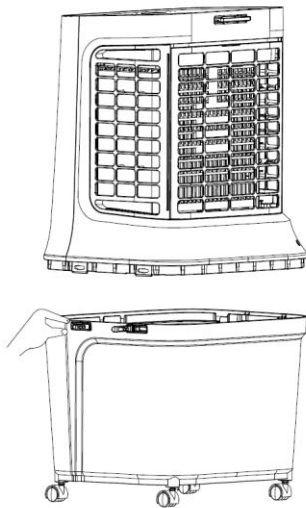
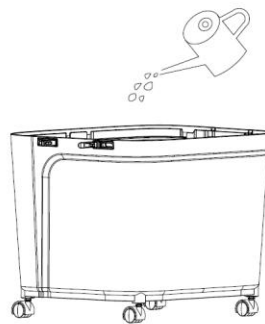

Figure 3
Figure 4
(2) Before adding water, open the 4 water tank buckles to separate the body from the water tank, and slowly pour water into the water tank (Figure 3 and Figure 4): After adding water, install the body and water tank, and fix the buckle.